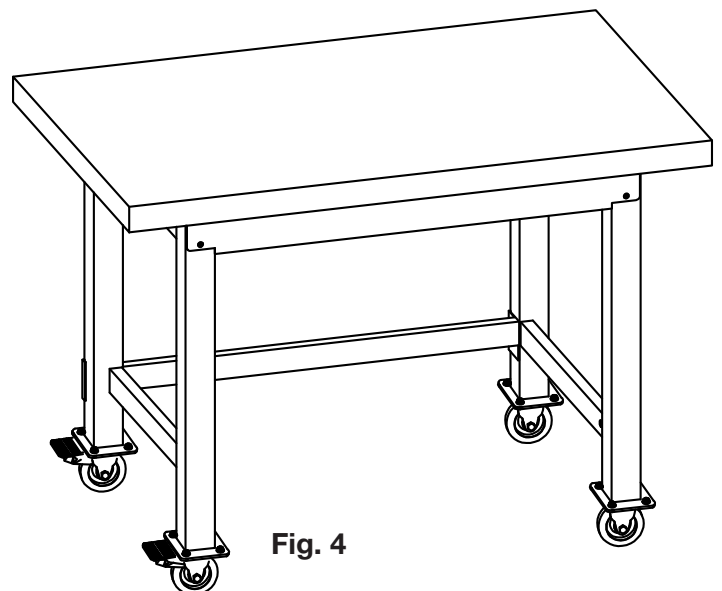

Fig. 4
**Step 6:** With the help of a second person turn the table back up the right way. As shown in (Fig. 4).